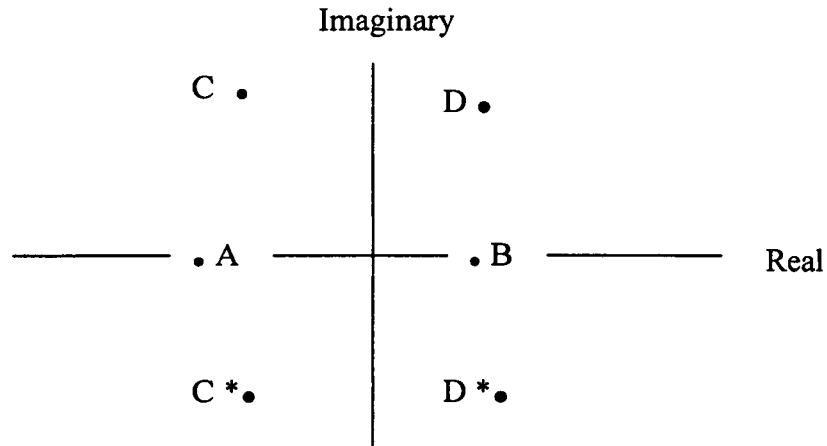

Figure 2
Consider the complex plane shown in figure 2.
- iii) Sketch the expected type of responses that can arise from each of the poles A to D in figure 2, indicating the range of values the poles must possess for a process to be stable. [10]